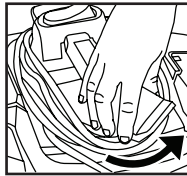

FIGURE 20
43. To remove the cord from the cord wraps grasp the sides of the rear cord wrap located behind the handle, turn counter clockwise 180° until the tip of the cord wrap is above the handle. **FIGURE 20.**